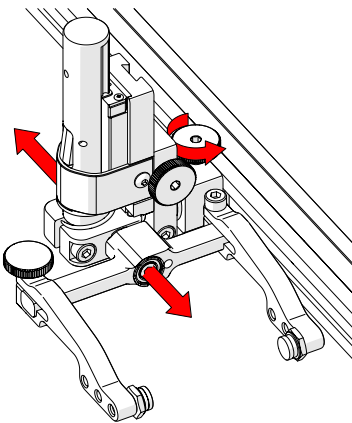

Fig. 59 - Adjust on frame bar
1. The probe holder adjustment knob allows the probe holder to be attached to a frame bar and horizontal positioning on a frame bar (Fig. 59).